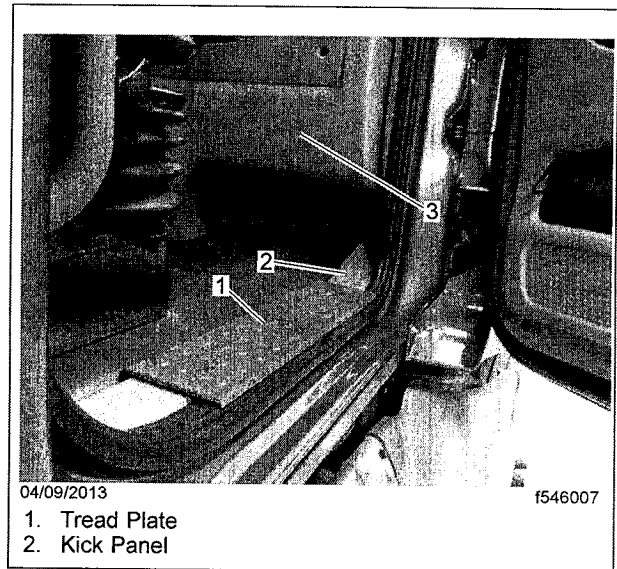

Fig. 4, Passenger-Side Tread Plate and Kick Panel
4. Remove the tread plate, kick panel, and lower dash panel from the passenger side of the vehicle. See **Fig. 4**.